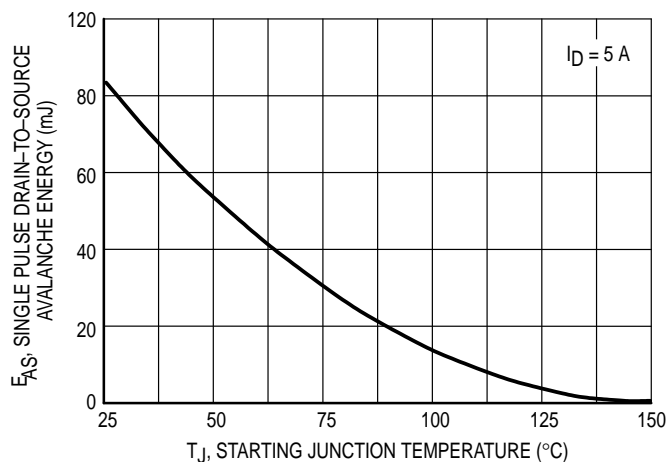

Figure 12. Maximum Avalanche Energy versus Starting Junction Temperature
Although many E-FETs can withstand the stress of drain-to-source avalanche at currents up to rated pulsed current (IDM), the energy rating is specified at rated continuous current (ID), in accordance with industry custom. The energy rating must be derated for temperature as shown in the accompanying graph (Figure 12). Maximum energy at currents below rated continuous ID can safely be assumed to equal the values indicated.